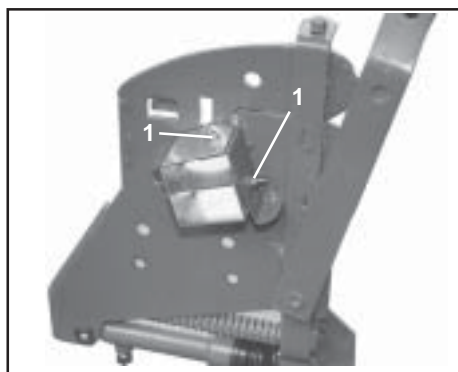

Fig. 11.16
- Mark 2 holes, drill 9 mm diam. holes and bolt the special guide plate to the standard guide plate by flat head bolts M 6 (Fig. 11.16/1).